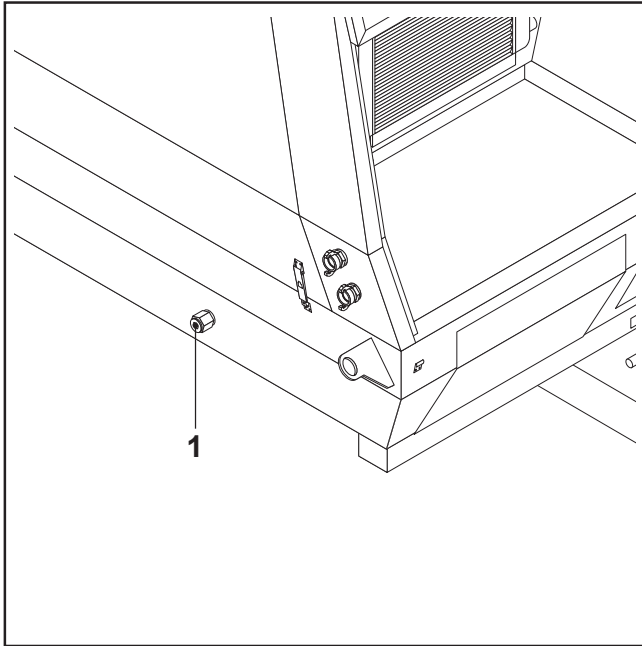

FIG.86
- Remove the plug (FIG. 86-REF. 1) and drain the oil.